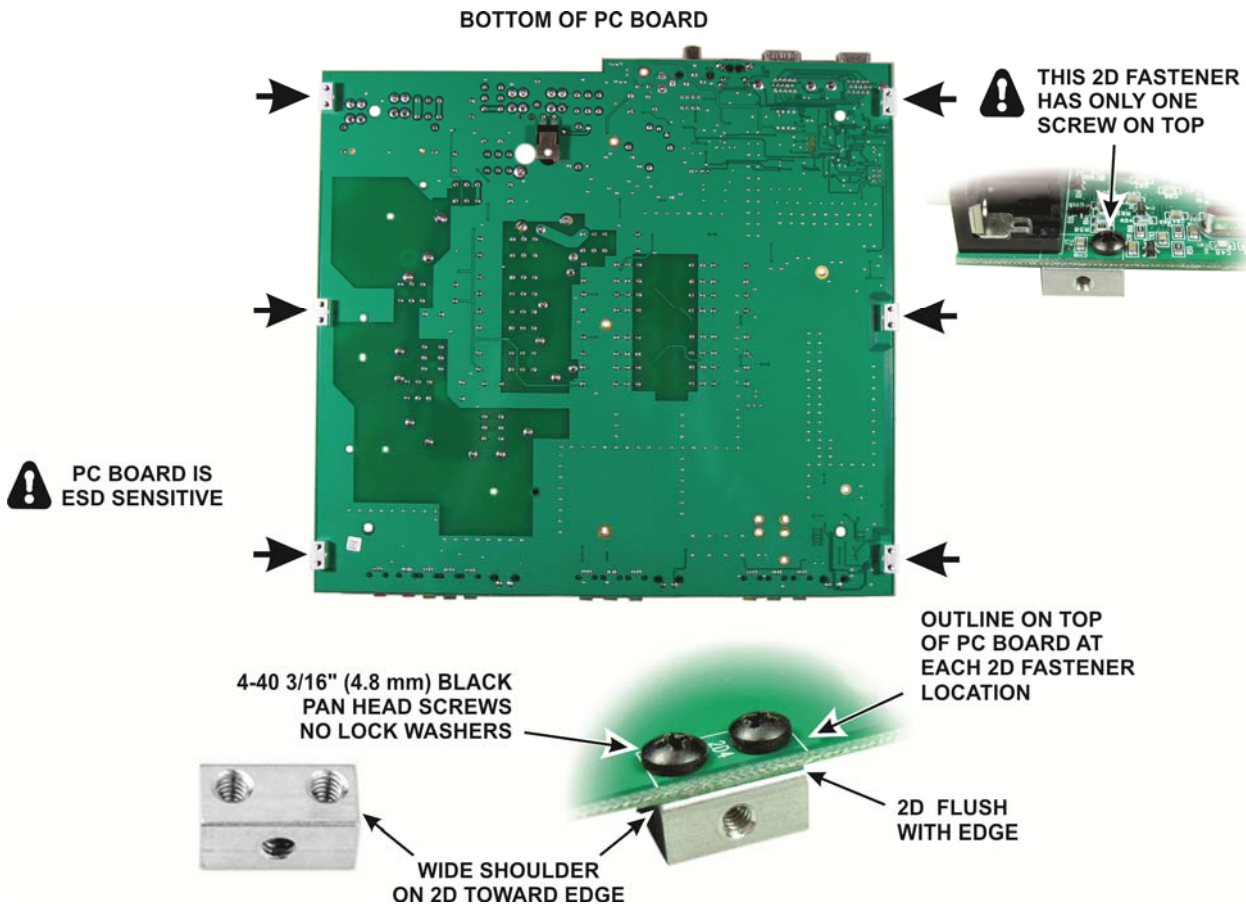

Figure 6. Installing the 2D Fasteners.
- Taking ESD precautions remove the printed circuit board from its ESD-safe envelope and install six 2-D fasteners as shown in Figure 6. Be careful not to disturb any of the inductors on the top side, especially the air wound coils, or the position of the resistor mounted on the bottom.
- The 11 screws along the sides of the pc board (Figure 6, page 17).